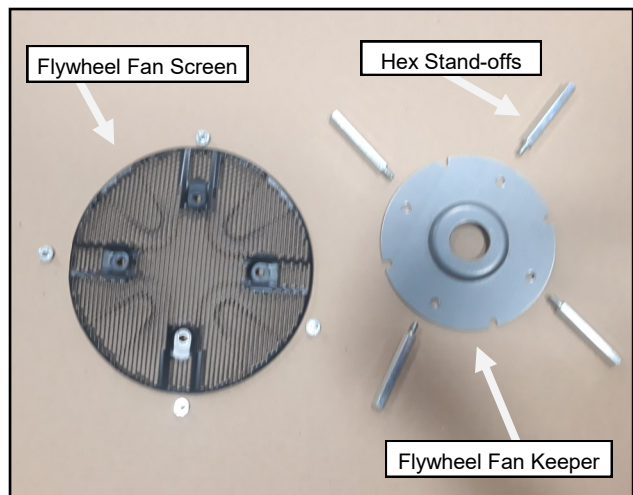

Fig. 1.8 (Flywheel Fan Screen, Keeper & Stand-offs)
- 1.8 Remove and discard the (4) flywheel fan screen fasteners. Set aside the flywheel fan screen for future use. See Figure 1.8.
- 1.9 Remove the (4) OEM hex stand-offs and the flywheel fan's keeper plate and discard. See Figure 1.8.